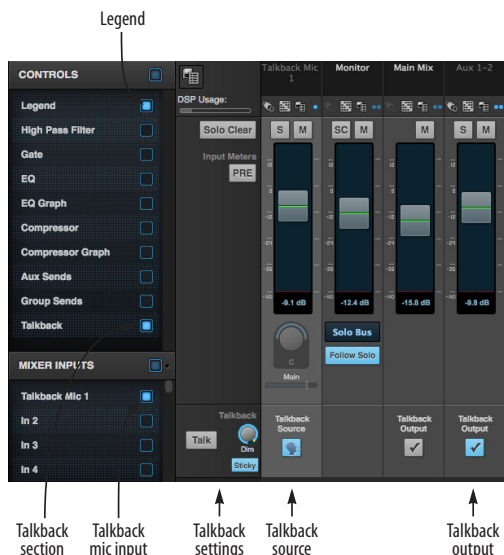
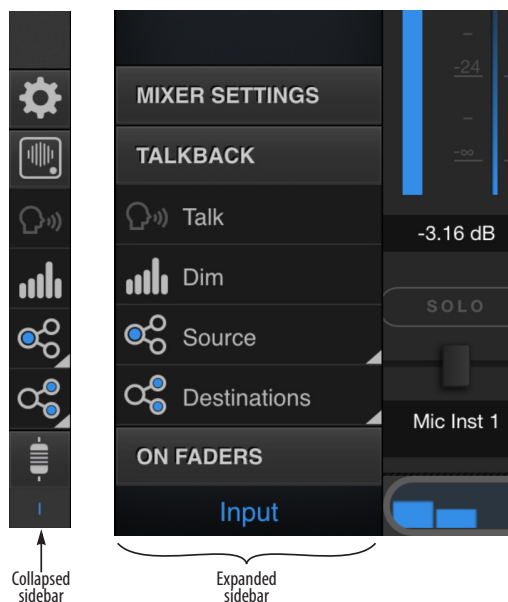

Figure 7-8: Mixer setup for the talkback mic.
Figure 7-10: The Talkback settings can be accessed in the Touch Console sidebar.
- 3 In the *Controls* panel of the mixer, show the Legend and the Talkback section (Figure 7-8).
- 4 For the channel assigned to the talkback mic, enabled its *Talkback source* switch (Figure 7-8).
- 5 For the aux bus you chose for talkback in step 2, enable its Talkback output switch (Figure 7-8). As mentioned before, you can do so for two or more output buses.
The talkback settings can be accessed by enabling the Legend in the Controls panel of the mixer (Figure 7-8). In Touch Console, tap the Talkback tab in the sidebar (Figure 7-10).
Press and hold the *Talk* button (Figure 7-8) to engage the talkback mic. This is the same as pressing the TALK button on the front panel of the 8pre-es (item #10 on page 9).
When *Sticky* is engaged (Figure 7-8), the Talk button remains engaged when you click it, until you click it again to disengage, so you don't have to hold it down while speaking. This setting also affects the TALK button on the front panel of the 8pre-es (item #10 on page 9).
If you are feeding a monitor mix to the musicians on the same Aux bus as your talkback mic, use the *Dim* knob (Figure 7-8) to control how much the monitor mix will be attenuated when talkback is engaged. This gives you control over the relative volume between the talkback mic signal and all other audio on the mix bus. To control overall volume of everything, use the bus fader.